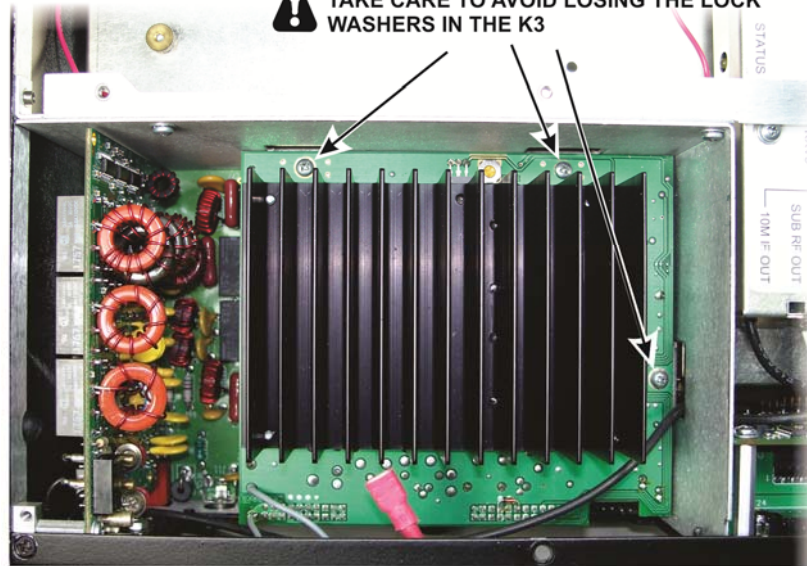

Figure 3. Removing the KPA3 Screws.
- Remove the three screws securing the KPA3 amplifier module to the shield assembly (see Figure 3).
- Reinstall the KPA3 module (see Figure 24) and then replace the three 4-40, 1/4" (6.4mm) zinc pan head screws and lock washers you removed earlier (Figure 3, pg 3).